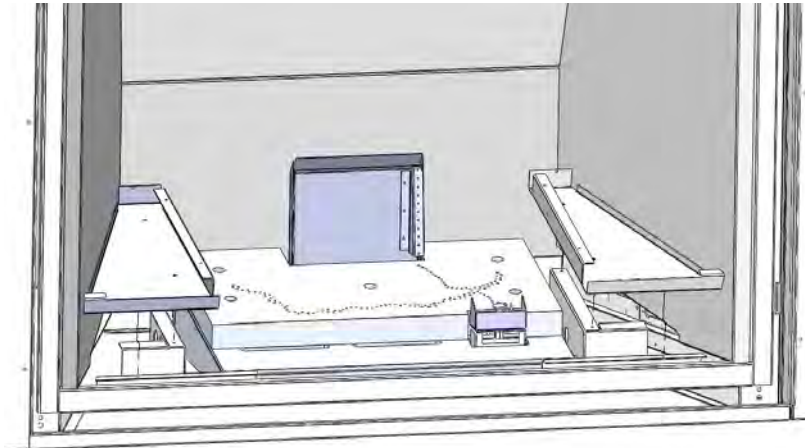

Figure 51: Installing Burner Cover Supports
15. Install the Left and Right Burner Cover Support as shown in Figure 51. Each burner cover is installed using three (3) T-20 Torx screws supplied.